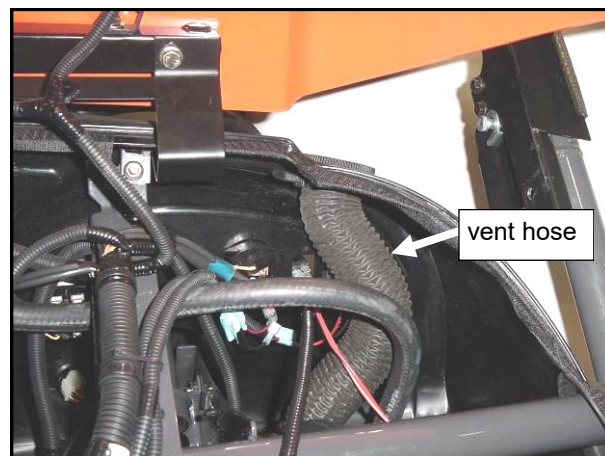

Fig. 4.3 (view from front of vehicle)
4.3 Per fig. 4.3, use the supplied 16" long piece of 2" diameter vent hose to connect the under side of the round vent to the top of the heating unit. Use one cable tie at each end to secure it in place.